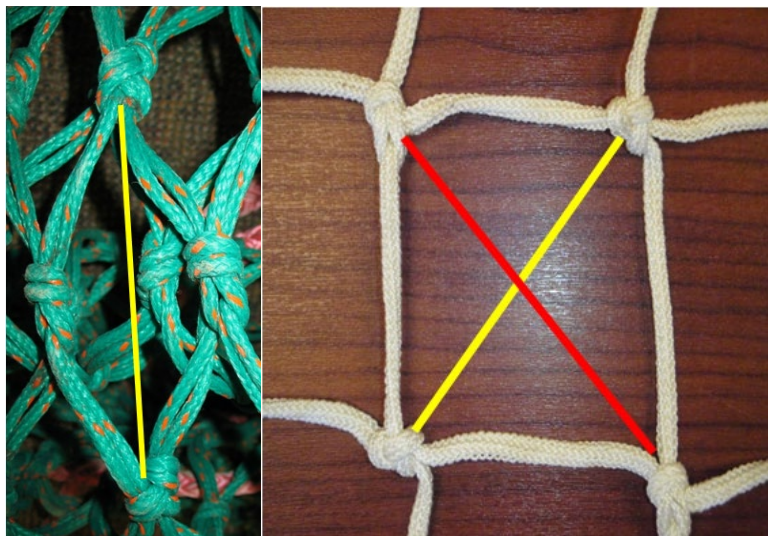

Figure 26. Diamond (left) and square (right) meshes. Colored lines indicate direction of mesh size measurement.
The size and orientation of the mesh affects catch selectivity (see FIGURE 26). Generally roundfish are targeted using diamond mesh, which stretches in a long, thin shape when towed. Flounders, on the other hand, are typically targeted with square mesh nets; the square mesh retains its shape while towing, which prevents the flatfish from exiting but can allow certain sized roundfish to get through.
- Measure meshes inside knot-to-knot in the direction the net is hung (see FIGURE 26).